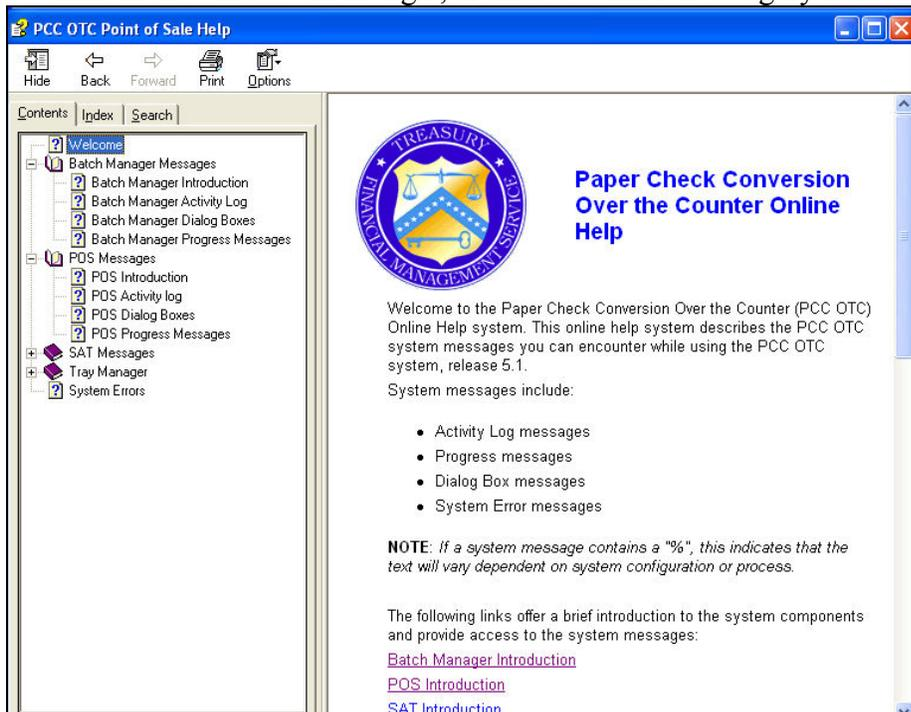

Figure 4.23
- Contents – Displays an online help window as displayed below in Figure 4.23. Click on any of the links in the window on the right, or choose a different category from the window on the left.